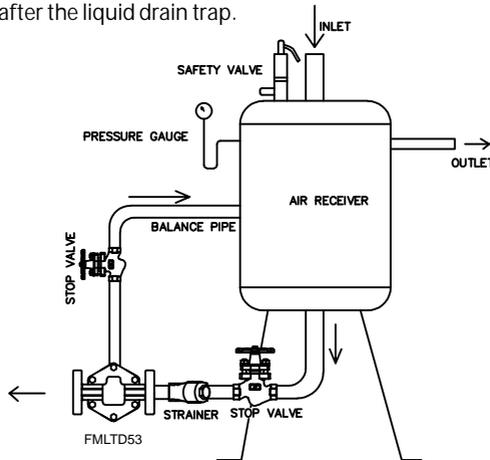

Figure 4: FMLDT53 installation with balance line arrangement
(Ref.Fig. 4) A tapping is provided at the top of Forbes Marshall Liquid Drain Trap to fit the balancing line. When there is high load, there are chances of the Forbes Marshall Liquid Drain Trap getting air locked. The balancing line is connected back to the upstream of the liquid drain trap so that the air collected inside the Forbes Marshall Liquid Drain Trap is displaced back in the
5. The trapped air should be removed by connecting a balancing pipe of 3/8" tapping that is provided on the cover of the Liquid Drain Trap to the air receiver as shown in figure 4.